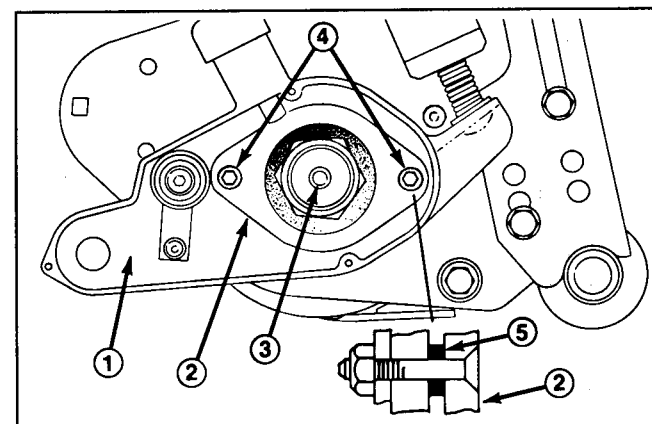

Figure 41
6. Remove two (2) locknuts and flat head socket screws to remove bearing adapter and left side groomer housing (Fig. 41).
15. Install left side groomer housing and bearing adapter (Fig. 41). Install two (2) flat head socket screws and tighten to 17 - 21 ft-lb. Make sure a spacer is installed over each flat head socket screw between groomer bearing adapter and reel bearing housing. Install two (2) locknuts and tighten to 23 - 27 ft-lb.